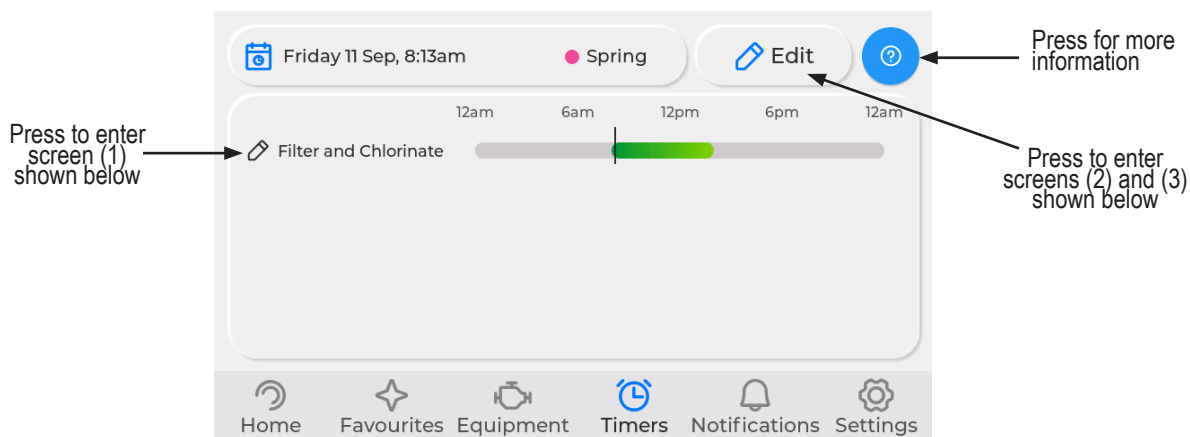
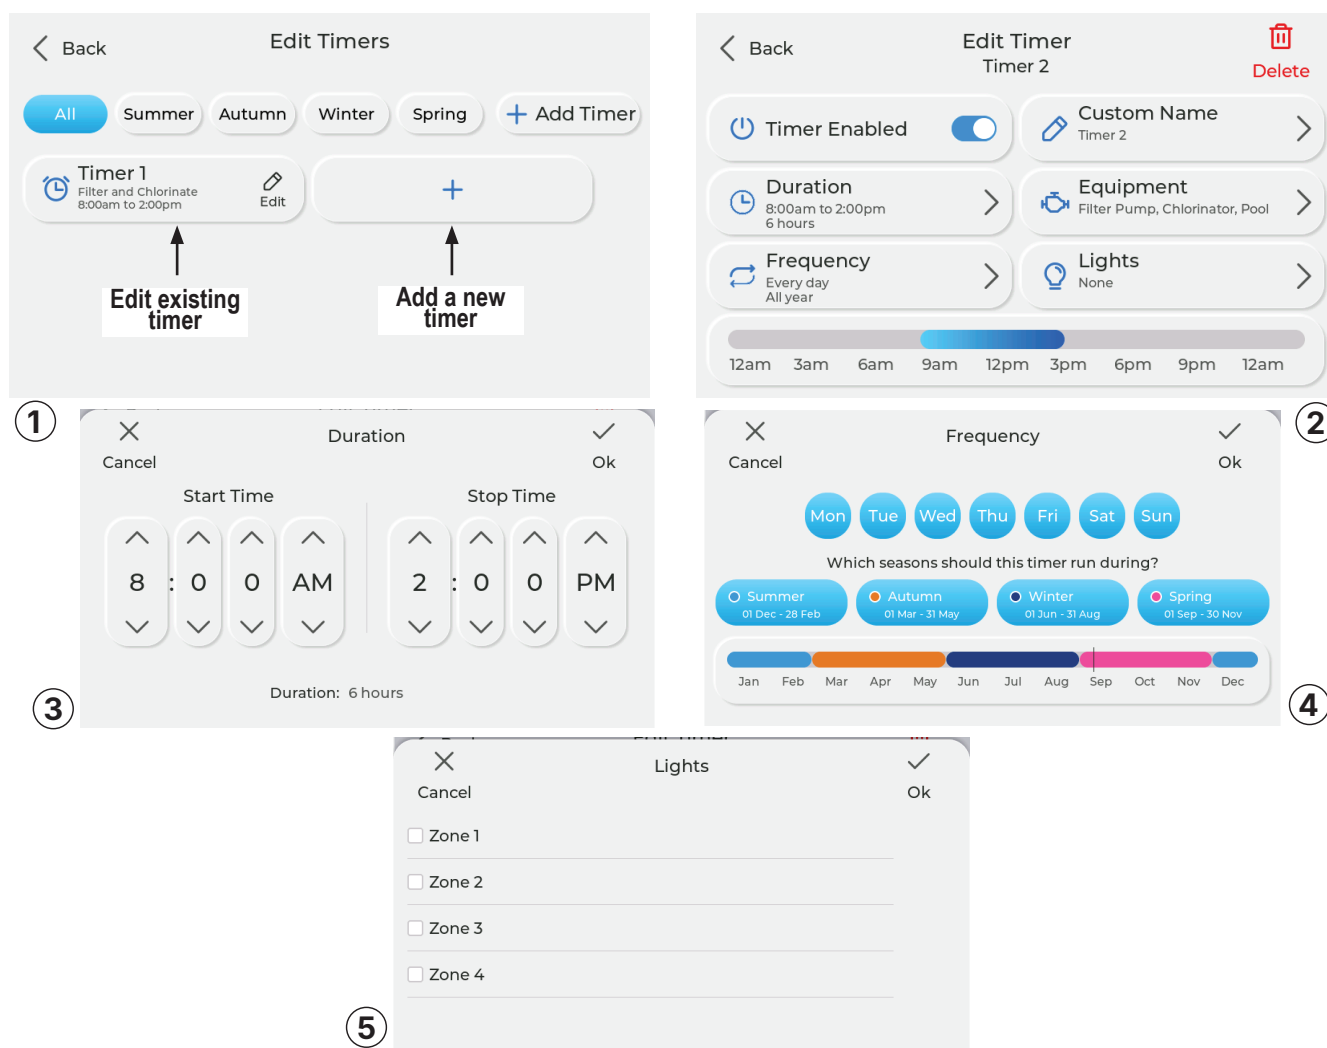

Figure 12. Main Timer Screen
Figure 13. Timer Setting and Editing Screen
Once all of your equipment has been connected and configured, Timers can be set to control when the Echo chlorinator filters, sanitises, and operates the connected equipment. See *Figure 12* and *Figure 13*. Each timer can be used for sanitisation or pump-only operation and can include connected equipment such as heater and lights where configured. Timers can overlap as long as there is no conflict in the operation of any of the equipment. If there is an issue, a warning symbol  will appear and the colour of the timer window will change to orange or red indicating that assistance or a change in setup is required.
Duration (see Figure 13 screen 3)	Select how long this operation should last (AM and PM applies)
Frequency (see Figure 13 screen 4)	Select the days and seasons you want this timer to operate in this behaviour. See Section 3.4.2, Seasons for more information.
Lights (see Figure 13 screen 5)	Check to operate lights with any of the timer windows and the selected zones if desired
- Settings > Date & Time > Timer Seasons (set Summer, Autumn, Winter and Spring (1) start dates (2) - press Save for each)
- The timer screen will show the seasons and days selected in blue for the selected timer. See Figure 13 screen 4.